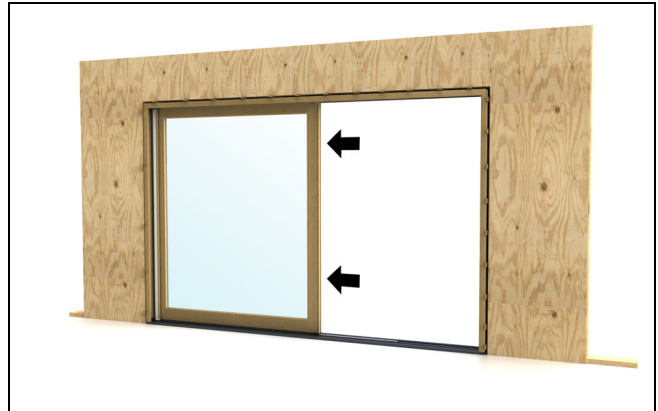

Figure 125
3. Install stationary panel first. Tilt top into place and slide the bottom of the panel onto the sill. Slide stationary panel back close to either jamb. See figure 125.